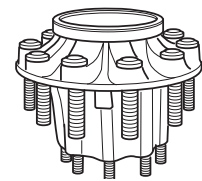

Figure 3
3. Lubricate the inner bearing cone with the same lubricant as will be used in the hub and install it into the inner bearing cup (see Figure 3).